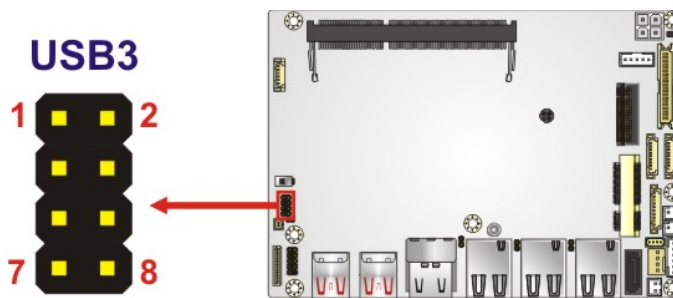

Figure 3-22: USB Connector Location
- CN Location:** See **Figure 3-22**